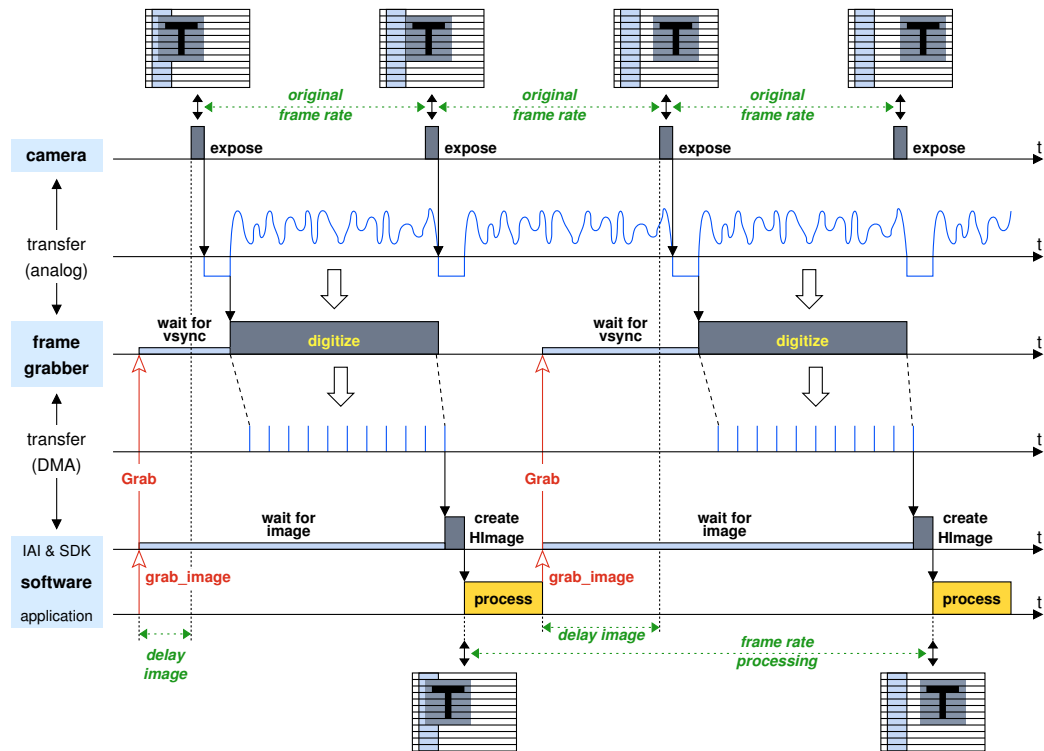
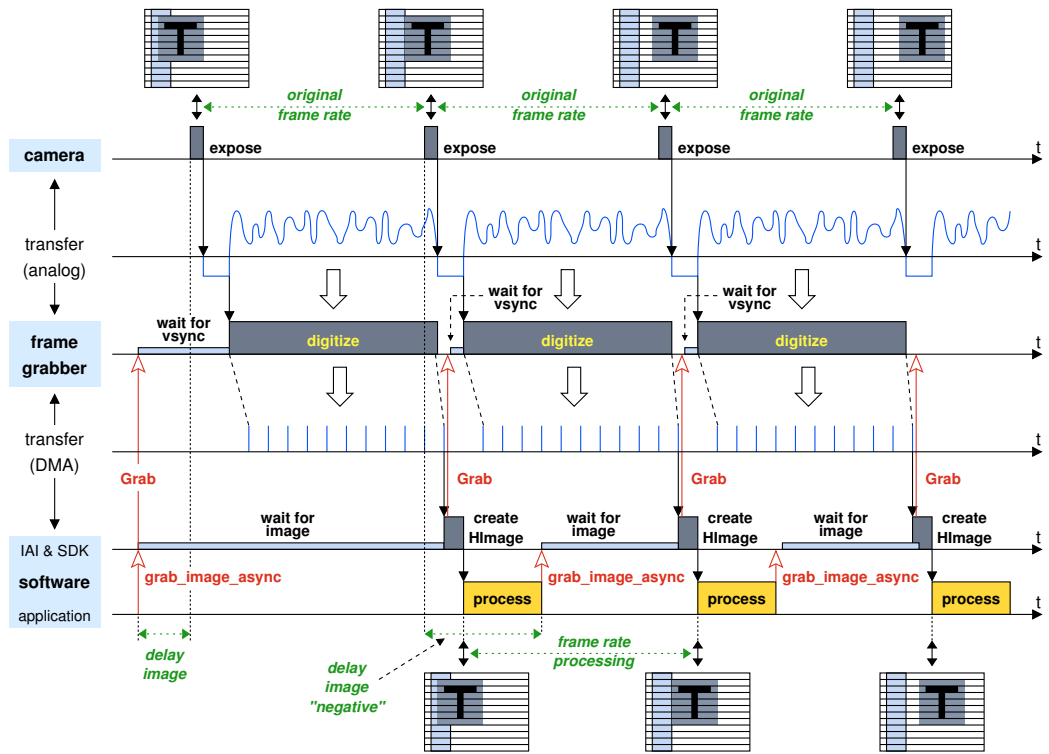
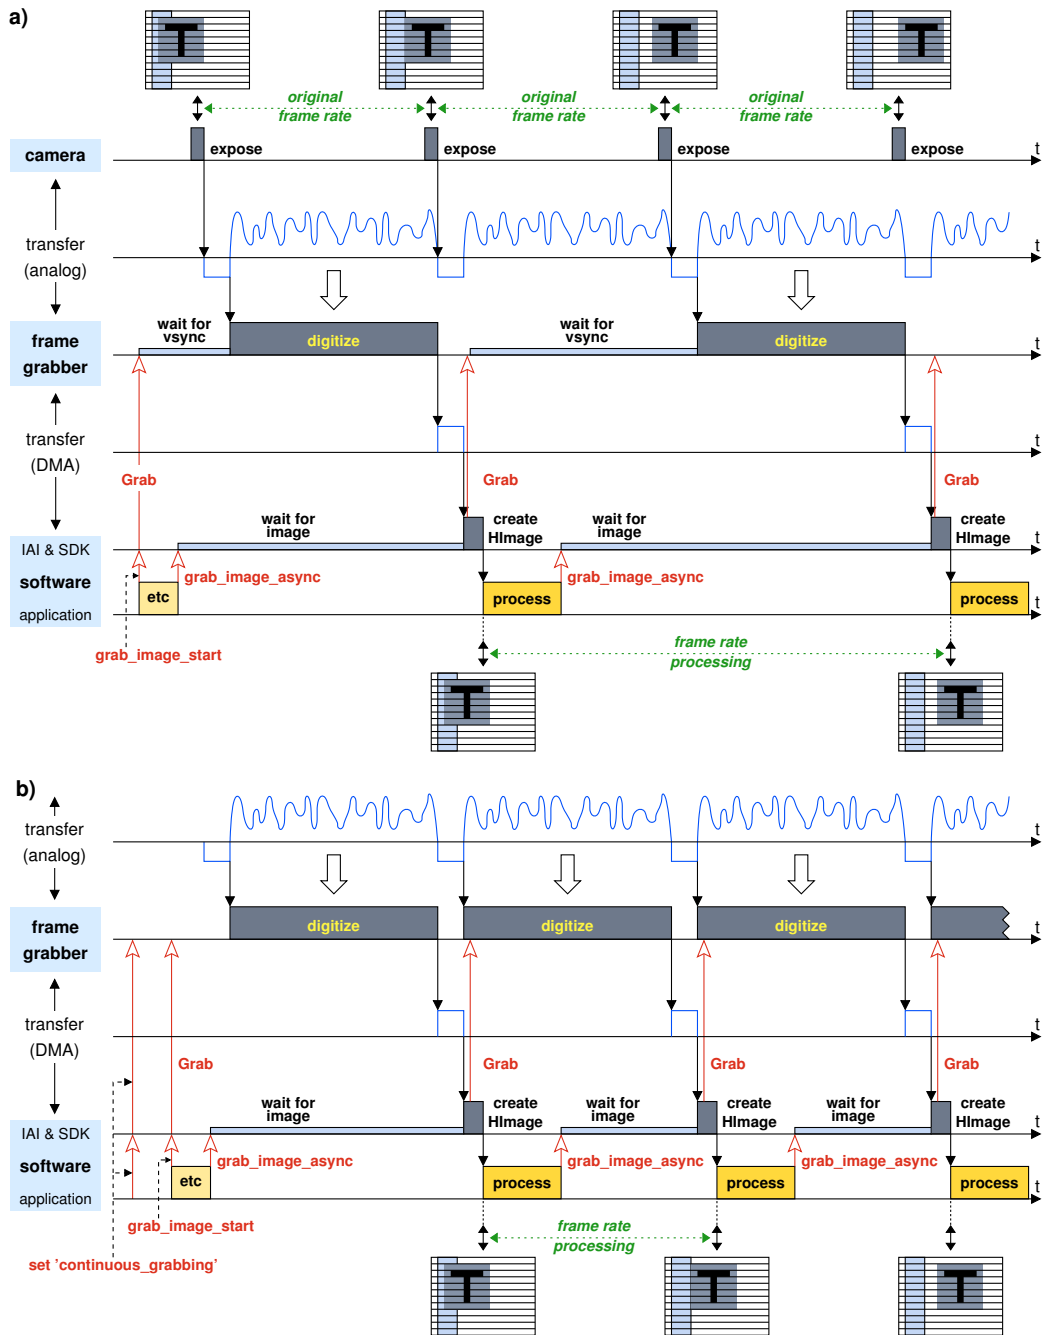

Figure 5.1: Standard timing using `grab_image` (configuration: free-running progressive-scan camera, frame grabber with incremental image transfer).
Figure 5.3: Grabbing and processing in parallel using `grab_image_async` .
Figure 5.4: a) `grab_image_async` fails to reach frame rate; b) problem solved using wait continuous grabbing.
Figure 5.1 shows the timing diagram for the standard grabbing mode, i.e., if you use the operator `grab_image` from within your application. This operator call is “translated” by the HALCON acqui-
The image is then transferred from the frame grabber into computer memory via the PCI bus using *DMA* (direct memory access). This transfer can either be *incremental* as depicted in figure 5.1, if the frame grabber has only a FIFO buffer, or in a single burst as depicted in figure 5.2 on page 26, if the frame grabber has a frame buffer on board. The advantage of the incremental transfer is that the transfer is concluded earlier. In contrast, the burst mode is more efficient; furthermore, if the incremental transfer via the PCI bus cannot proceed for some reason, a FIFO overflow results, i.e., image data is lost. Note that in both modes the transfer performance depends on whether the PCI bus is used by other devices as well!
If you use a free-running camera, the camera itself determines the exact moment an image is acquired (exposed). This leads to a delay between the moment you call `grab_image` and the actual image acquisition (see figure 5.1 on page 24). The delay is not deterministic, but at least it is limited by the frame rate; for example, if you use an NTSC camera with a frame rate of 30 Hz, the maximum delay can be 33 milliseconds.
An example timing diagram is shown in figure 5.2. In contrast to figure 5.1, the image delay is (almost) zero. Furthermore, because the application now specifies when images are to be grabbed, all images can be processed successfully; however, the achieved frame rate still includes the processing time and therefore may be too low for some machine vision applications.
As shown in figure 5.1 on page 24, after the image has been transferred into the computer memory, the HALCON acquisition interface needs some time to create a corresponding HALCON image which is then returned in the output parameter `Image` of `grab_image`. Most of this time is needed to copy the image data from the buffer which is the destination of the DMA into a newly allocated area.
The drawback of volatile grabbing is that grabbed images are overwritten by subsequent grabs. To be more exact, the overwriting depends on the number of image buffers allocated by the acquisition interface or SDK. Typically, at least two buffers exist; therefore, you can safely process an image even if the next image is already being grabbed as in figure 5.4 on page 30. Some acquisition interfaces allow to use
**being grabbed.** Figure 5.3 shows a corresponding timing diagram: The first call to `grab_image_async` is processed similar to `grab_image` (compare figure 5.1 on page 24). The difference becomes apparent after the transfer of the image into computer memory: Almost immediately after receiving the image, the acquisition interface automatically commands the frame grabber to acquire a new image. Thus, the next image is grabbed while the application processes the previous image. After the processing, the application calls `grab_image_async` again, which waits until the already running image acquisition is finished. Thus, the full frame rate is now reached. Note that some frame grabbers fail to reach the full frame rate even with `grab_image_async`; section 5.1.5 on page 29 shows how to solve this problem.
As can be seen in figure 5.3, the first call to `grab_image_async` has a slightly different effect than the following ones, as it also triggers the first grab command to the frame grabber. As an alternative, you can use the operator `grab_image_start` which just triggers the grab command; then, the first call to `grab_image_async` behaves as the other ones. This is visualized, e.g., in figure 5.4; as you can see, the advantage of this method is that the application can perform some processing before calling `grab_image_async`.
Please note that when using `grab_image_async` it is not obvious anymore which image is returned by the operator call, because the call is decoupled from the command to the frame grabber! In contrast to `grab_image`, which always triggers the acquisition of a new image, `grab_image_async` typically returns an image which has been exposed before the operator was called, i.e., the image delay is negative (see figure 5.3)! Keep this effect in mind when changing parameters dynamically; contrary to intuition, the change will not affect the image returned by the next call of `grab_image_async` but by the following ones! Another problem appears when switching dynamically between cameras (see section 5.3.1 on page 34).